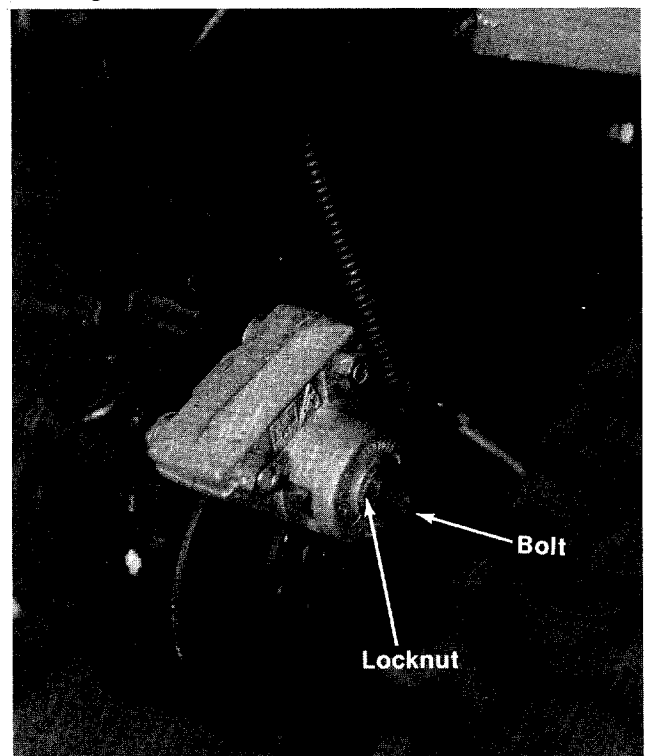

FIGURE 20
1. Loosen the locknut. (See figure 20.)